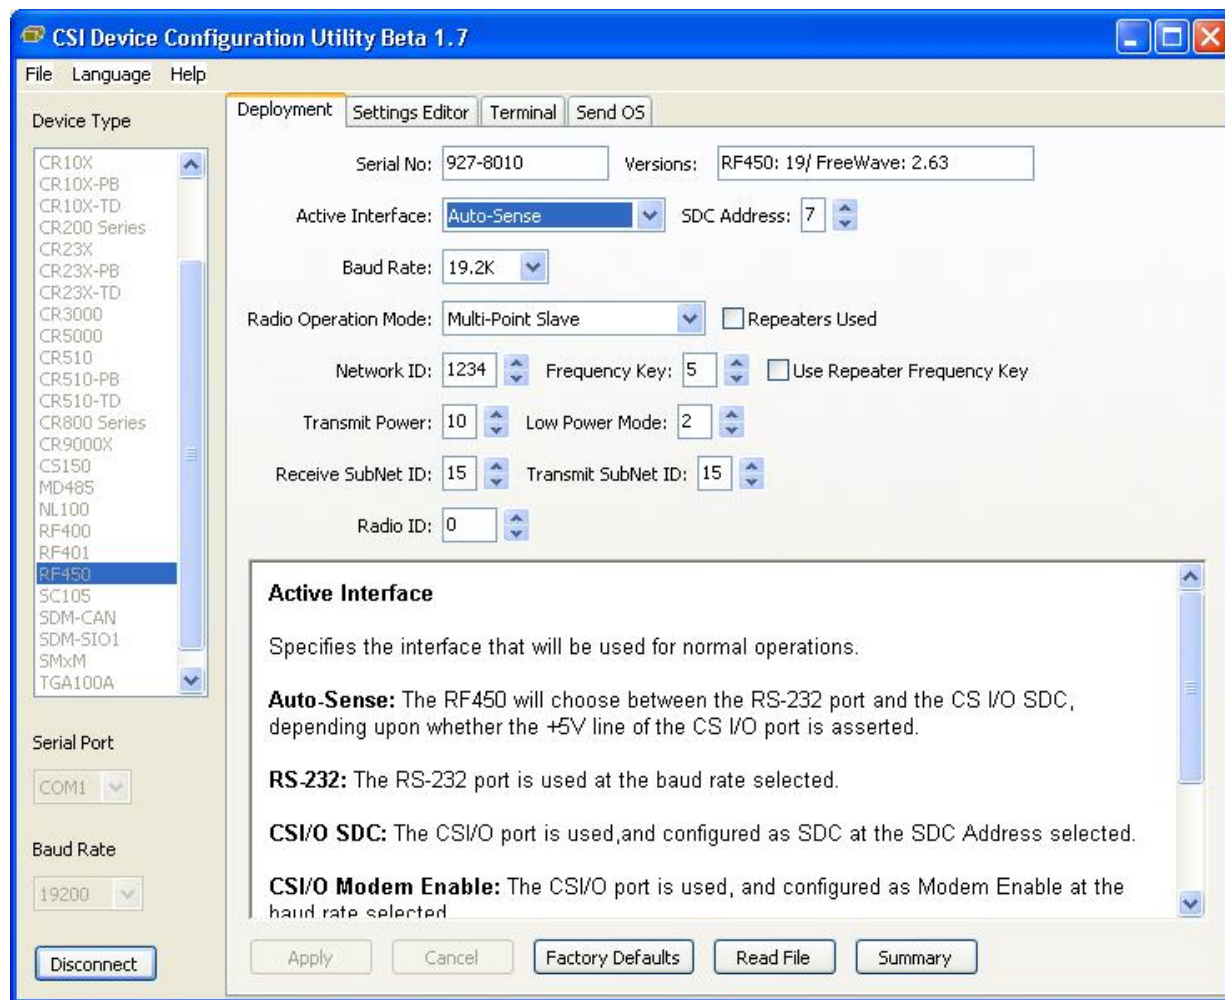

FIGURE 4-5. DevConfig Screen Showing the RF450 Settings
6. Click Connect then press the green "setup" button located on the side of the RF450 between the RS-232 and power ports. The radio CD and CTS LEDs should turn green. After several seconds, a screen similar to FIGURE 4-5 will appear: